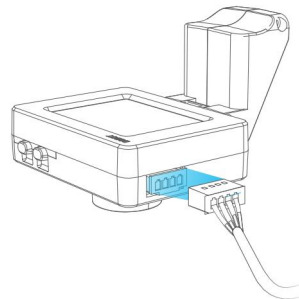

Figure 3.9 Wiring
**Step 4** Connect Magician Go and AI camera using the 4Pin data cable of AI camera, as shown in Figure 3.9.